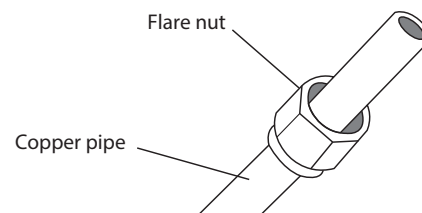

Fig. 7.4
- Place flare nuts on both ends of pipe. Make sure they are facing in the right direction, because you can't put them on or change their direction after flaring. See Fig. 7.4